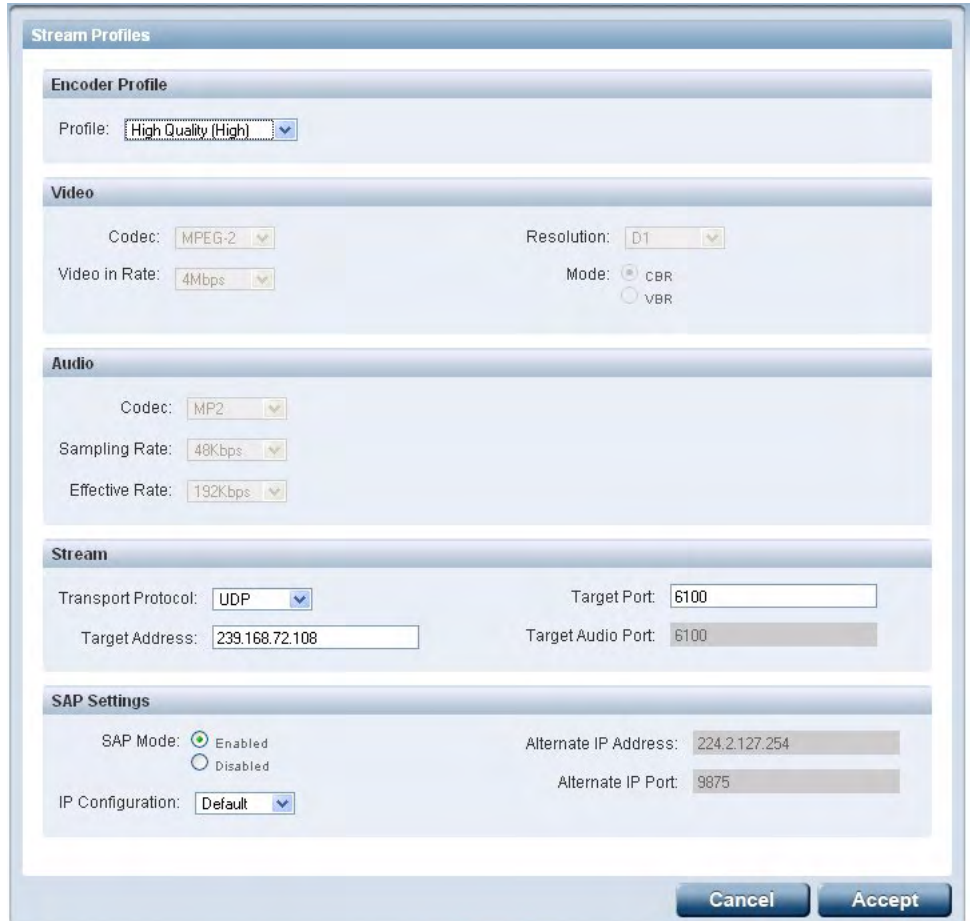

FIG. 42 Stream Profiles page
7. Access Stream Profiles page (FIG. 42) by clicking the **Stream Profiles** button in the Navigation Bar. This page allows a user to both configure the properties of the outgoing media stream and setup the properties associated with communicating the stream to an external IP-enabled device capable of receiving and processing the data.